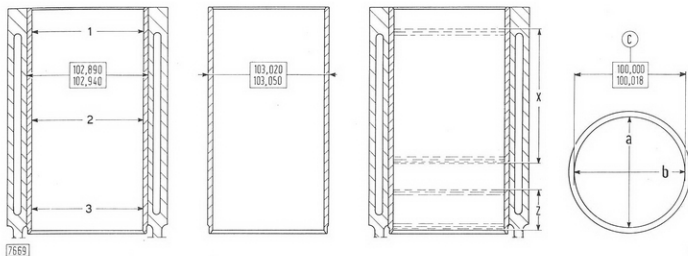

Fig. 8 - Liner and Block Details and Wear Data
Liner bore diameter machining oversize (see Fig. 8)2 mm (.008 in.)
P.M. Standard liner I.D. (1) (see Fig. 8)	100.000 to 100.018 mm. (3.9370 to 3.9377 in.)
I.D. machining oversize range (2)2 - .4 - .6 - .8 mm (.008 - .016 - .024 - .032 in.)
- Check the liner bore over the working length (see Fig. 8) as swept by the piston rings.
Then bore and grind each liner as specified. Check the bore diameter by means of a dial gauge positioned in a and b (see Fig. 8) and take the readings in planes 1, 2 and 3.